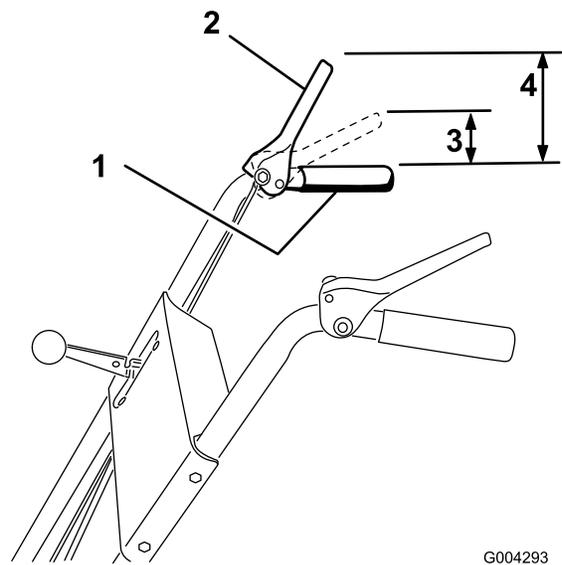

Figure 9
3. Check the distance between the top of the handgrip and the bottom of the auger/impeller drive control lever (Figure 9).
**Note:** The amount of force needed to compress the lever increases noticeably when you remove the slack from the auger/impeller drive belt (approximately 1/2 of the lever movement). The adjustment is correct when the force begins to increase and the distance between the top of the handgrip and the bottom of the auger/impeller drive control lever is 1 to 2 inches (2.5 to 5 cm) as shown in Figure 9.